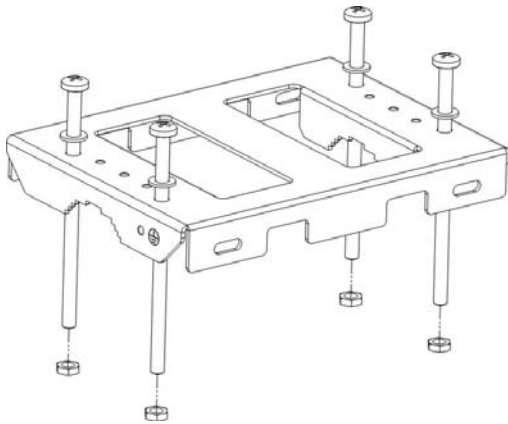

Figure 1
- a. Put a washer onto a bolt and put the bolt through the fore-panel hole. Fasten it lightly with a nut on the other side of the fore-panel (see Figure 1).